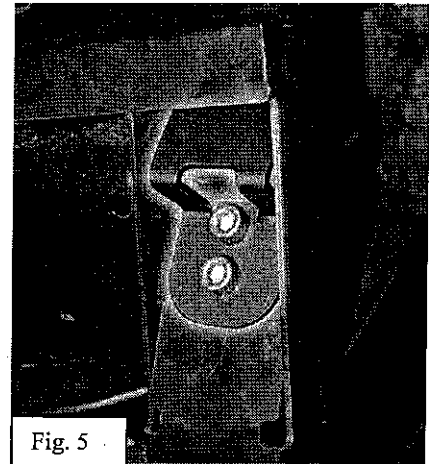

Fig. 5
1. Refer to Fig. 5. Remove the two bolts in the driver side front tube frame using a 5/16" allen wrench. Place the strike mount bracket in place, and re-fasten. Torque fasteners to 25 ft/lbs.